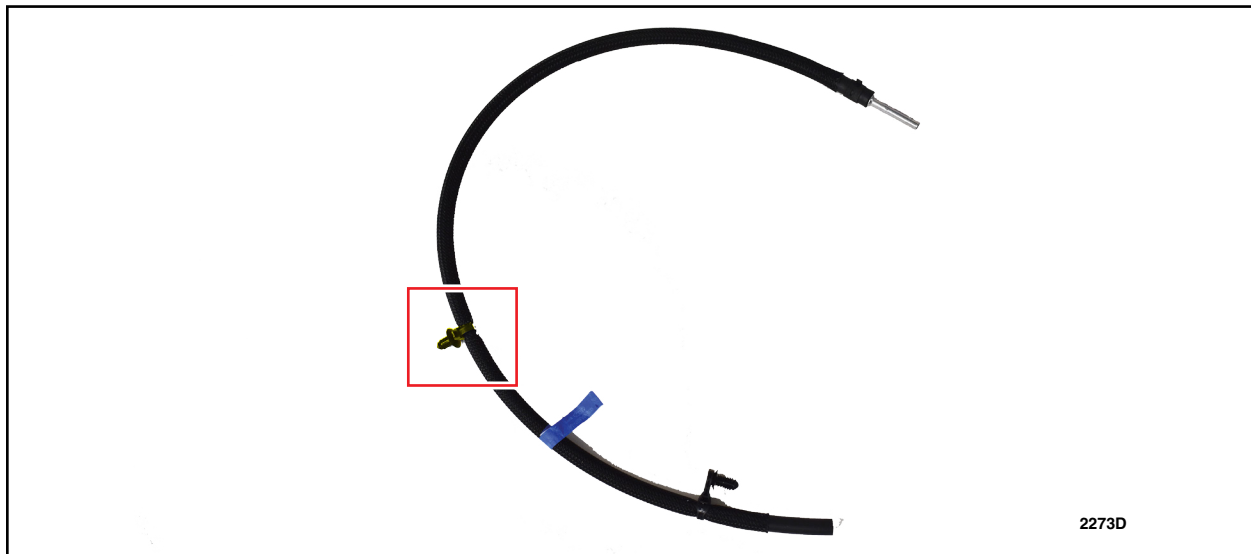

FIGURE 4
7. Remove the fir tree fastener highlighted in the figure below. See Figure 4.